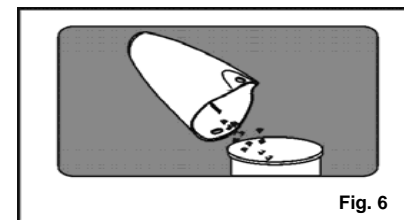

Fig. 6
3. Empty the dust from the dust cup container. (Fig. 6)